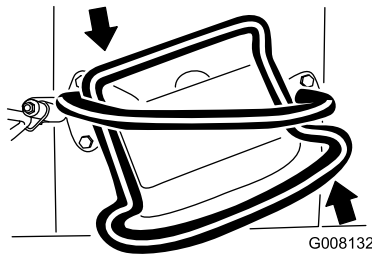

Figure 9
- To turn left, rotate the traction control counterclockwise (Figure 9).